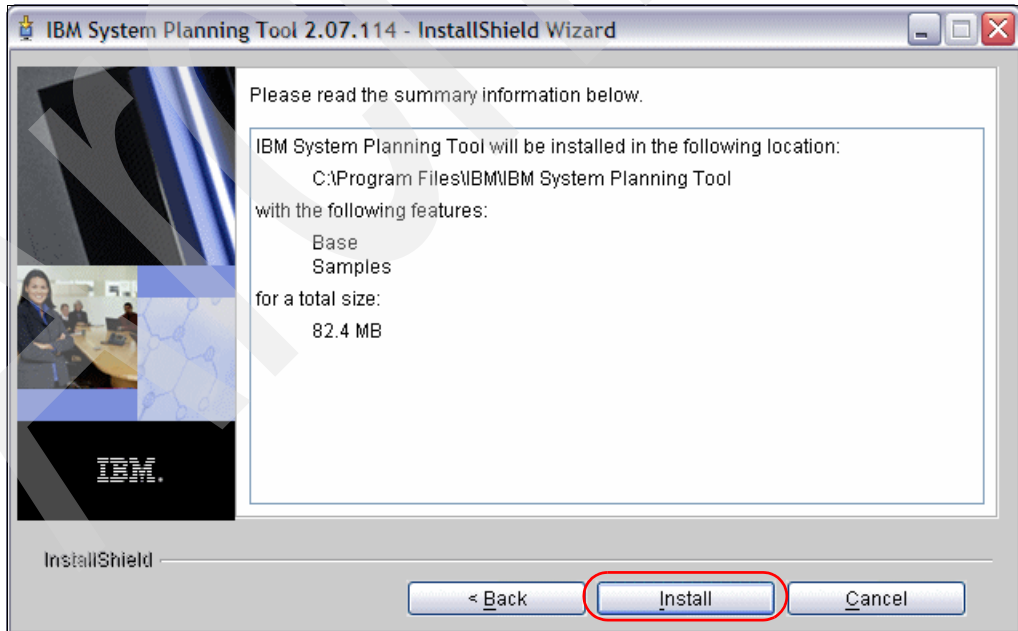

Figure A-16 Installation confirmation
- The last window requesting an action summarizes the folder installation and the installed features and their size. Click **Install**, as shown in Figure A-16, to confirm the installation procedure.